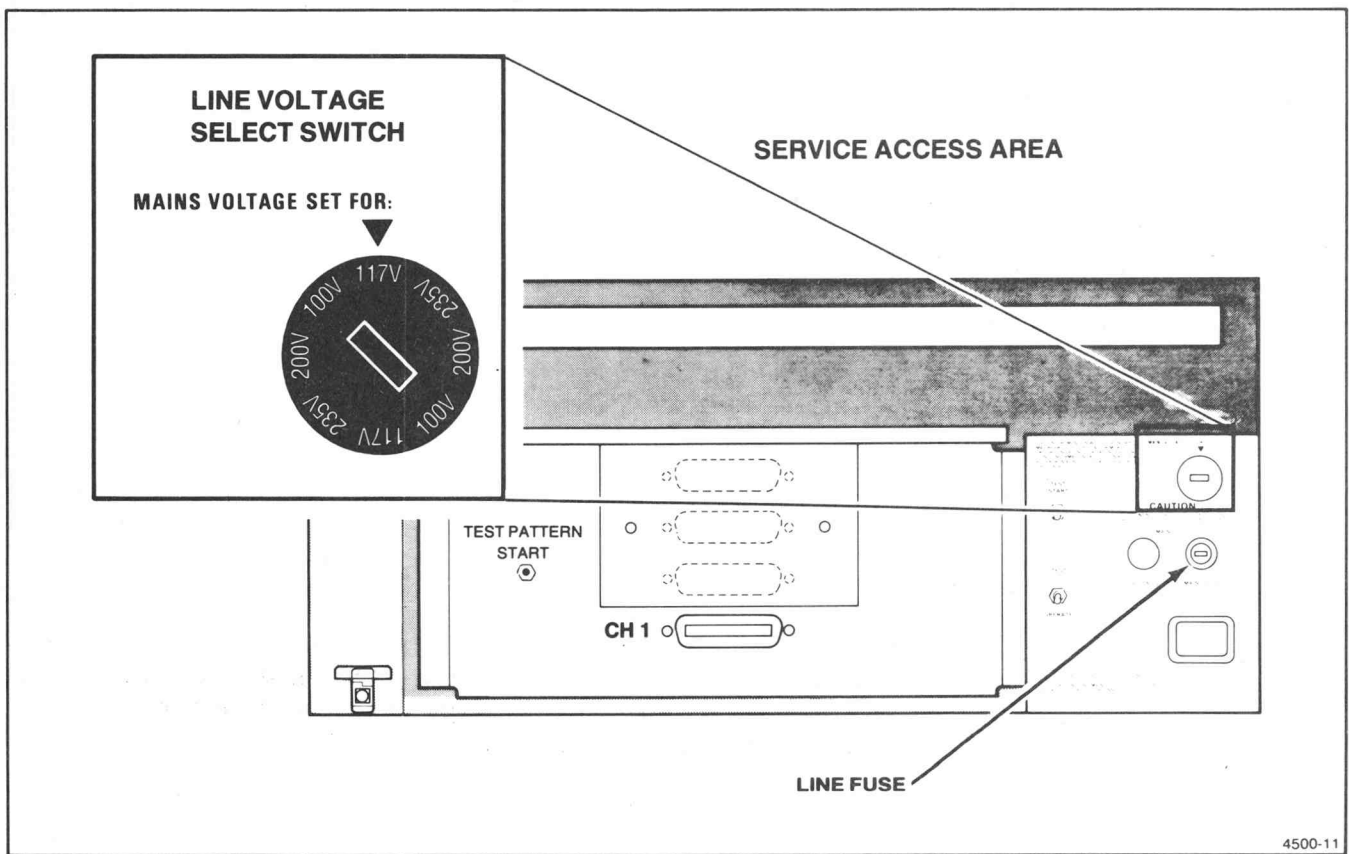

Figure 10-2. Line Voltage Selection Switch.
3. Use a screwdriver to rotate this switch until the desired AC line voltage is located next to the switch's index (see Figure 10-2).
4. Change the line fuse as follows: 90-129 volt range, use a 6.25 A Fast-Blo fuse; 180-258 volt range, use a 3.0 A Fast-Blo fuse. See Figure 10-2 for the location of the line fuse holder.